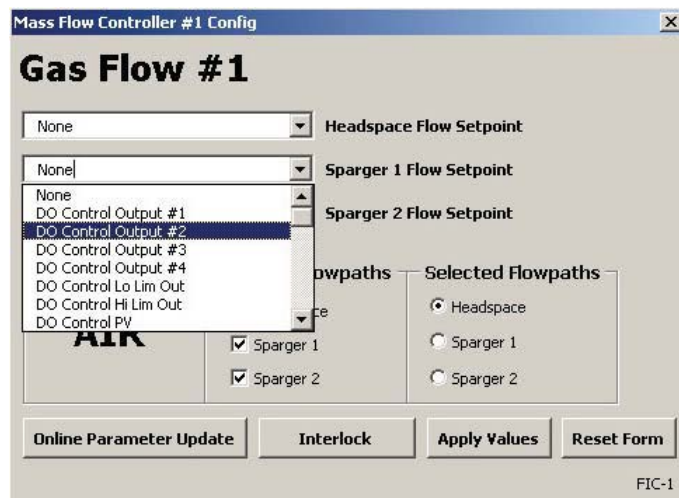

Figure 4.19. Selecting “DO Control Output” from “Sparger 1 Flow Setpoint” dropdown list.
5. Set the appropriate sparger to “DO Control Output #2” (Figure 4.19) and verify that the appropriate sparger is selected. Then click **Apply Values**.